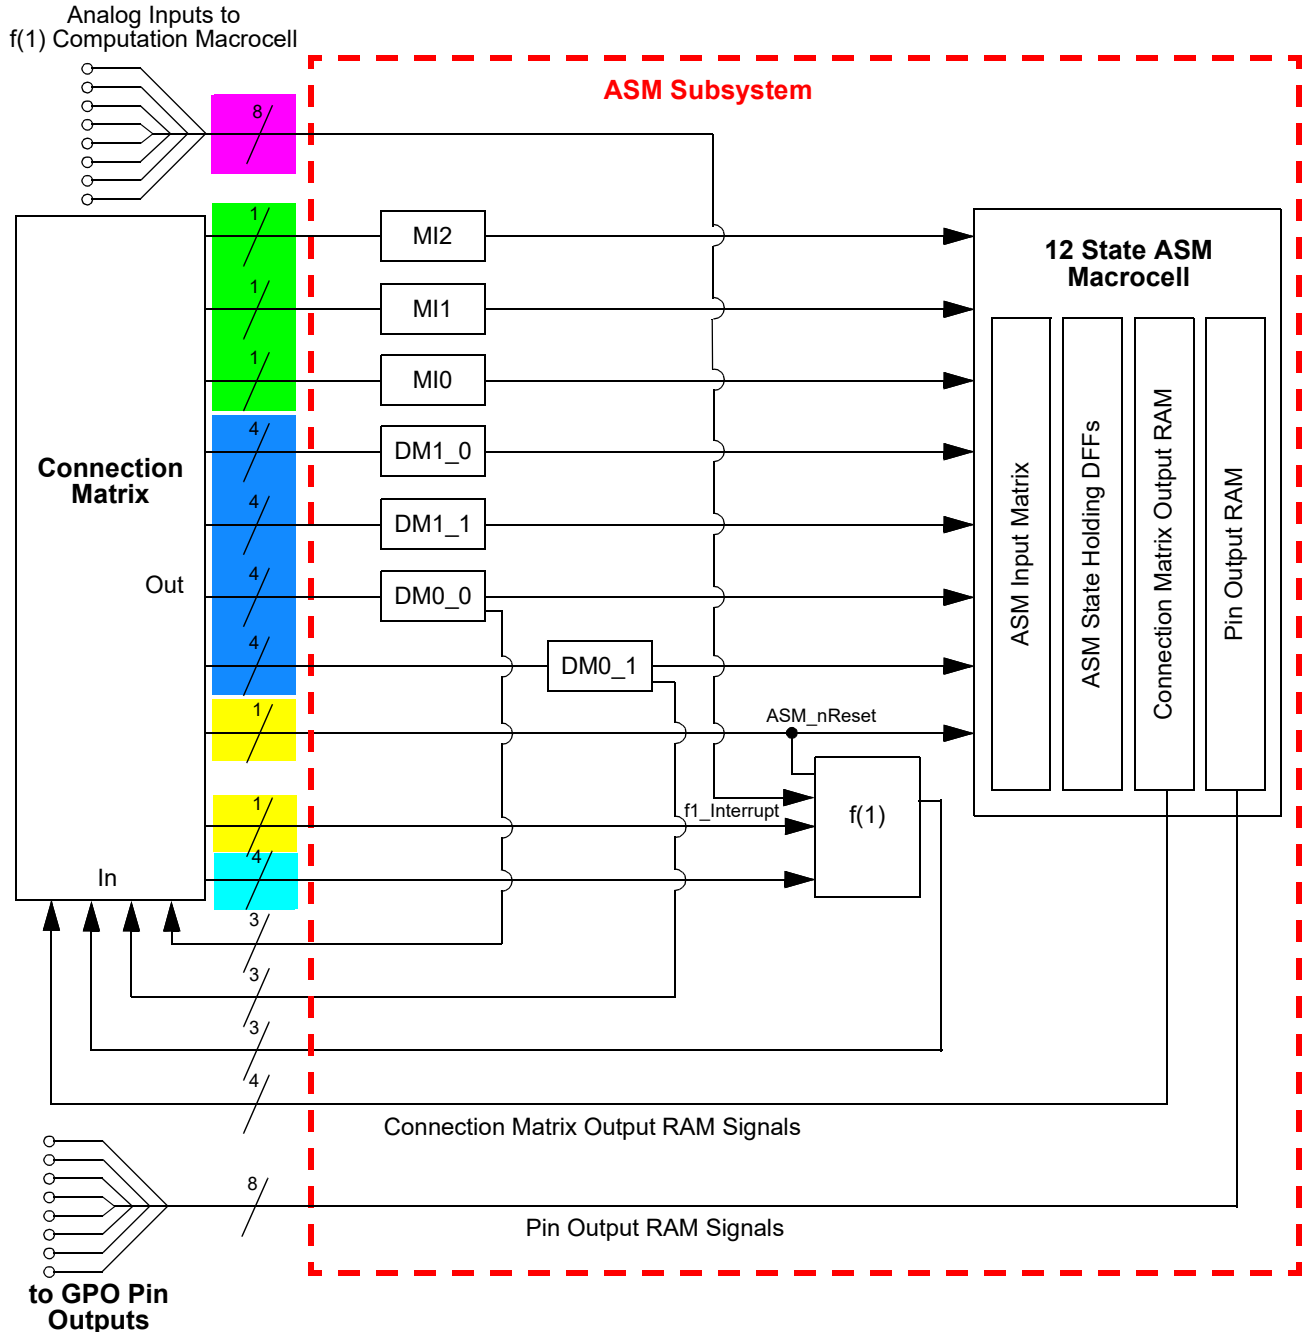
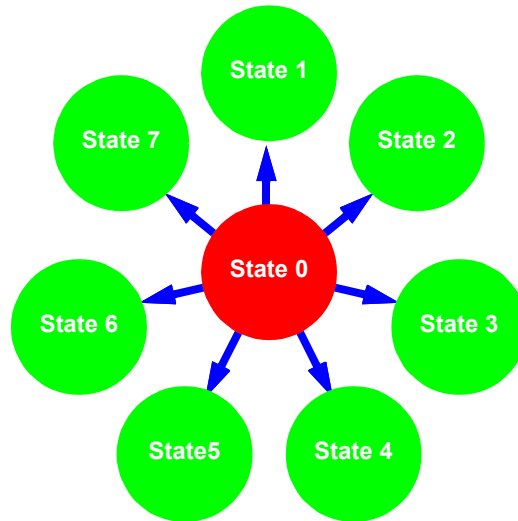
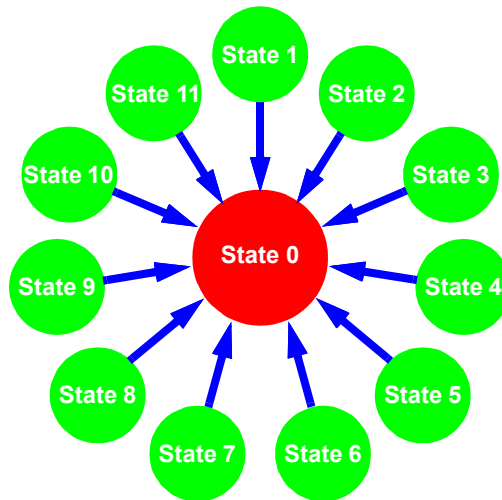

Figure 98: ASM Subsystem Input Signals
Figure 99: Maximum 7 State Transitions out of a Given State
Figure 100: Maximum 11 State Transitions into Given State
The ASM Subsystem has a total of 25 digital input signal lines, as shown in Figure 98, which all come from the Connection Matrix outputs. Of these 25 input signals, 3 are user selectable inputs going directly from the Connection Matrix to the three Matrix Interface (MI) macrocells. There are a total of 16 input signals that go to the DM_x macrocell, four per macrocell. There is 1 ASM_nReset input that is for driving a state transition in both the ASM macrocell and the f(1) Computation Macrocell to an Initial/Reset state. There are 4 digital input signals coming from the Connection Matrix to the f(1) Computation Macrocell. There is also 1 dedicated Interrupt input to the f(1) Computation Macrocell that will halt any active operations and transfer control back to the ASM macrocell. Each of the 25 input signals are level sensitive.
There are a total of 16 digital input signals to the ASM Subsystem which are inputs directly to the DM macrocells. These 16 signals are shown in Figure 98, highlighted in blue. While there are 4 input signals coming from the Connection Matrix and going to each DMx_x macrocell, there is only 1 output signal from each of these macrocells, which goes directly to the ASM macrocell. There are also 3 signal lines that come directly from the Connection Matrix and go to the three Matrix Interface (MI) macrocells which can drive state transitions. These signals are shown in Figure 98, highlighted in green. This sets an upper bound on the number of transitions that the user can select going **out of** a particular state to be 7, shown in Figure 99. There is no limitation on the number of unique transitions that can be supported going into a particular state, the user can select to have transitions going from a state to all other states, shown in Figure 100. Each of these input signals to the ASM macrocell is level sensitive, and active high. A high level input will trigger a state transition.
There are a total of 8 analog inputs coming from various pins which can be muxed into the positive input for the f(1) Analog Comparator inside the f(1) Computation Macrocell. These 8 signals are shown in Figure 98, highlighted in pink. The f(1) Analog Comparator can be re-programmed for analog input source and negative input reference settings. The user selections for both positive input signal and negative reference are included as part of the information stored in the f(1) Command Register Table. This allows the user to make different analog measurements that are state dependent in their analog sources and reference settings.
The ASM macrocell also has a ASM_nReset input. This input to the ASM macrocell is level sensitive and active low. This signal is shown in Figure 98, highlighted in yellow. An active signal on this input will drive an immediate state transition to the user-defined Initial/Reset state. The user can choose which state within the ASM Editor inside GPAK Designer will be the reset state.
There is also 1 dedicated f1_Interrupt input to the f(1) Computation Macrocell that will halt any active operations and transfer control back to the ASM macrocell. This signal is shown in Figure 98, also highlighted in yellow.